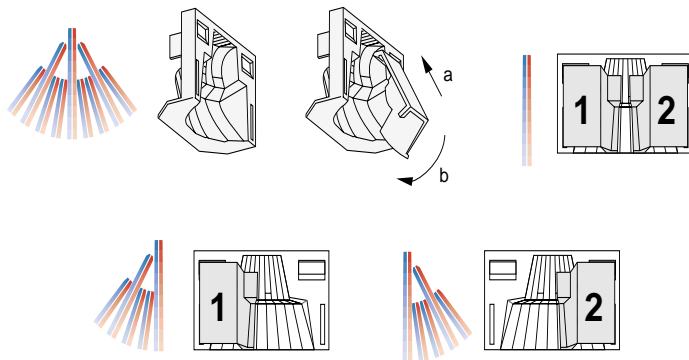

Figure 4
- Use one or both of the plastic masks provided to mask off large areas of coverage as shown in Figure 4.